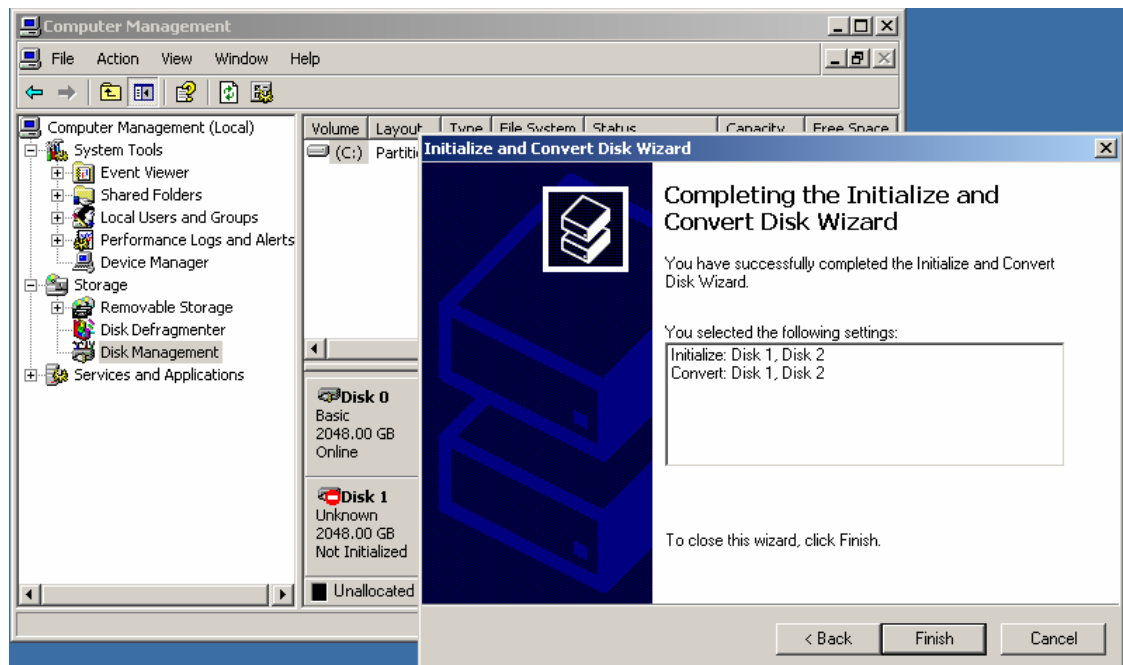

Figure 6-23. The Completing the Wizard dialog
- 25) Click the **Next** button to be presented with the **Completing the Wizard** screen as shown in Figure 6-23, and then click the **Finish** button to perform the operations and exit the wizard.